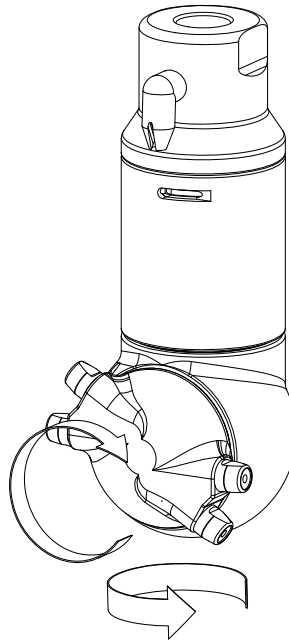

Figure 3: Rotation direction of nozzle head and body.
- The axis of rotation of the nozzle head is perpendicular to inlet axis — see Fig. 3).